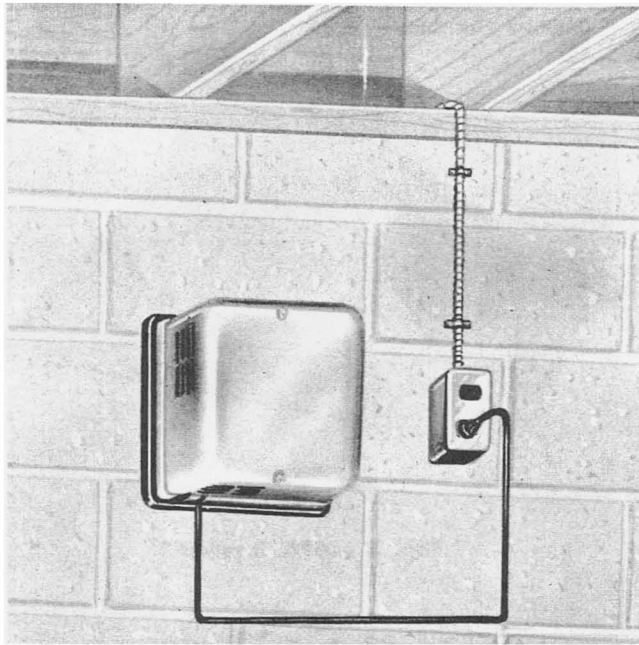

Fig. 2 – 54A Control Unit
3.03 The 54A control unit is mounted vertically in a manner similar to 105 apparatus boxes, etc (see Fig. 2). Care should be exercised to avoid a location that is subject to dust, extremes of temperature or humidity, or abuse. This unit will normally be installed in the vicinity of the